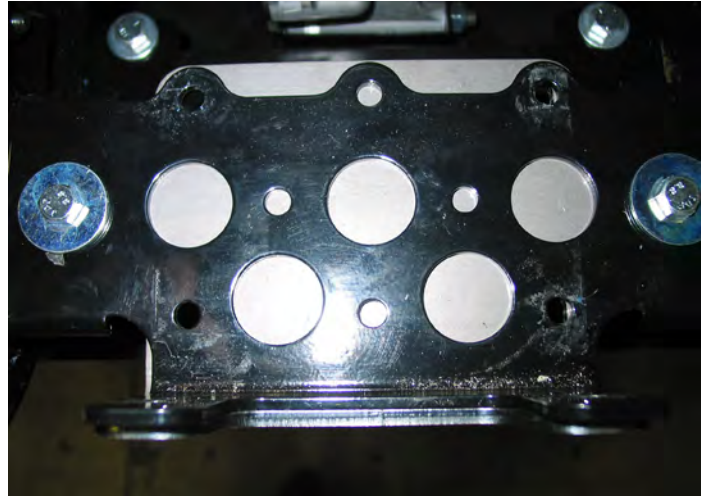

Figure 6
3. Locate the two M8 bolts and the four 5/16 fender washers and place two on each bolt, place in the holes from the top of the factory winch mount, and through the bracket as shown in figure 6. Use two of the 3/8 flat washers and two of the M8 lock nuts but do not tighten all the way. You will need to align the rest of the holes first.